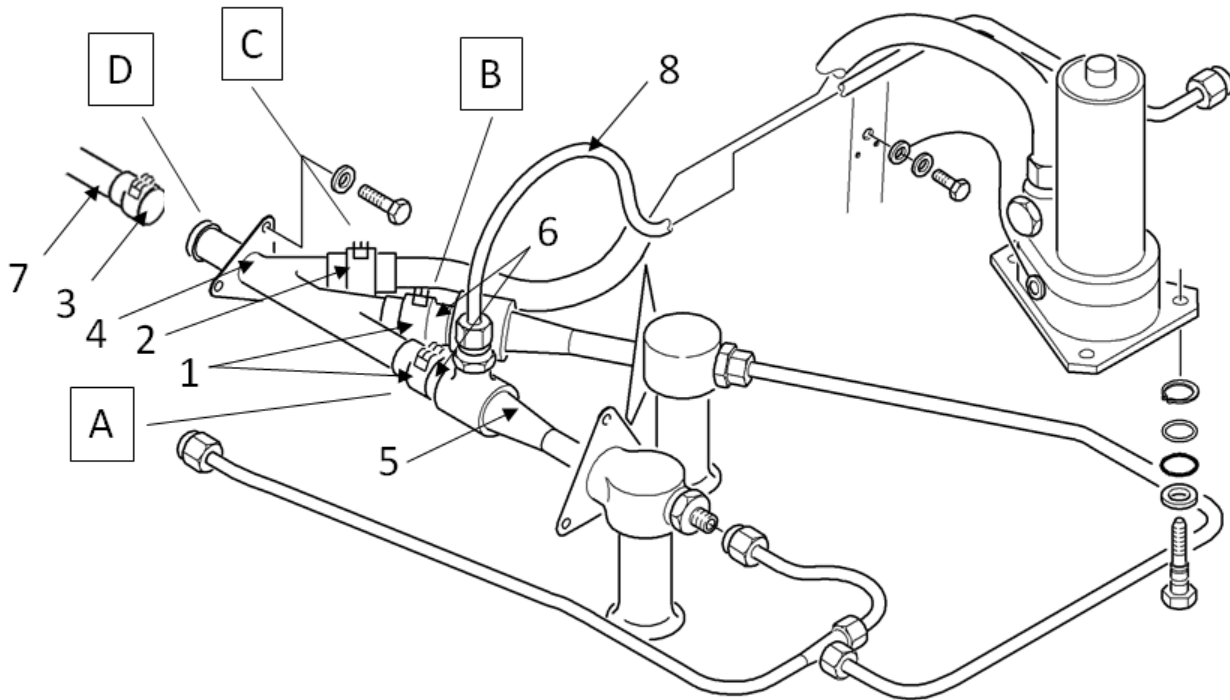

Figure 2: Clamp Identification and Findings for Reporting
Compliance with this Alert Service Bulletin must be reported to 328 Support Services GmbH Global Support Centre with the Compliance Report for Configuration Control. Fill in the tables below figure 2 on page 5 and attach it to the Compliance Report.
- 1) Inspect all Hydraflow fuel line clamps at locations A-D for damage of bonding wires in the area. Take pictures of each location for reporting purposes. Refer to Figure 2.